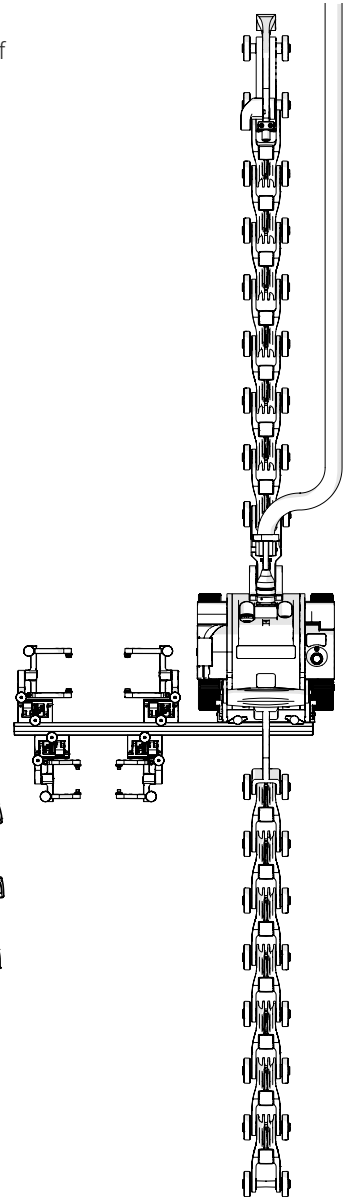

Fig. 165 - Assembled configuration
4. On a flat surface, connect the appropriate number of QuickLinks (Fig. 165) as indicated on the setup chart. (see "MOTIX Setup Chart" on page 110).